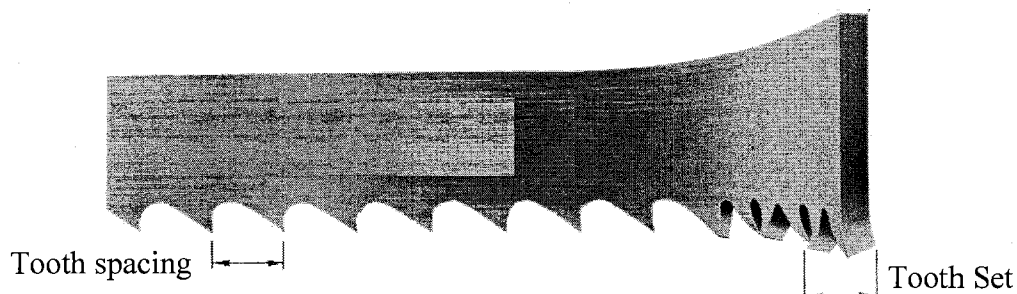

Fig. 7.1 Description of Band
- ❑ Wavy set has groups of teeth set alternately to right and left, forming a wave-like pattern. This reduces the stress on each individual tooth, making it suitable for cutting thin material or a variety of materials where blade changing is impractical. Wavy set is often used where tooth breakage is a problem. This is shown in Fig. 7.1 as follows: